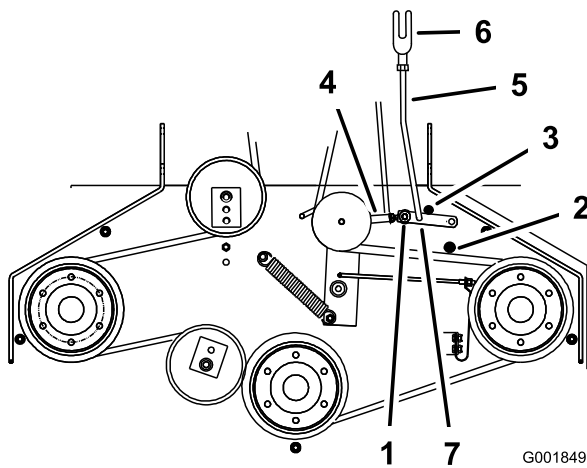

Figure 12
5. Make sure that the assist arm is against the rear assist arm stop on the deck (Figure 12).
7. The assist arm should contact the front assist arm stop on the deck. If it does not contact, adjust the bellcrank so it is closer to the gusset (Figure 12).
8. To adjust the assist arm link, remove the hairpin cotter from the assist arm (Figure 12).
11. Install the assist arm link into the assist arm and secure it with the hairpin cotter (Figure 12).